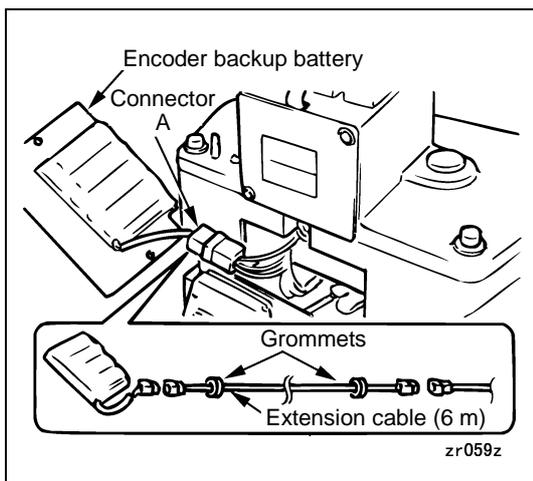

Figure 2-32
- (2) Remove the battery from the cover, then disconnect connector A and connect the extension cable to connector A. (See Figure 2-32.)